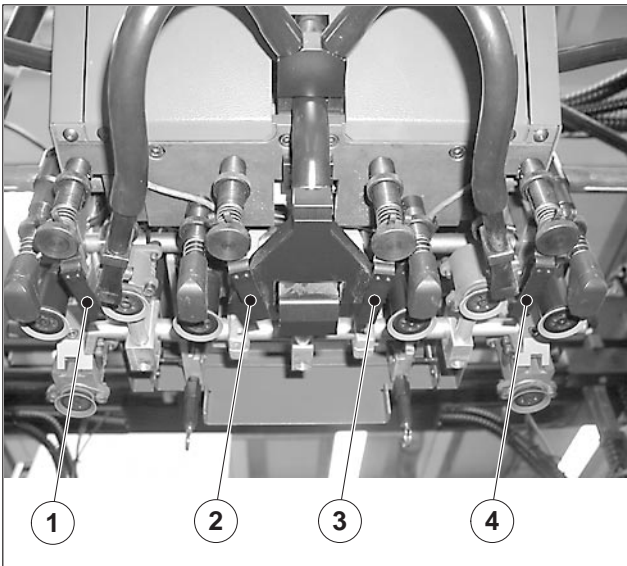

Fig. 28 Aligned sheet separator finger
3. Position the sheet separator fingers, obliquely towards the inside, underneath the carrier air blowers (Fig. 28/1 through 4).
- Inner sheet separator fingers (Fig. 28/2, 3)
- Outer sheet separator fingers (Fig. 28/1, 4)